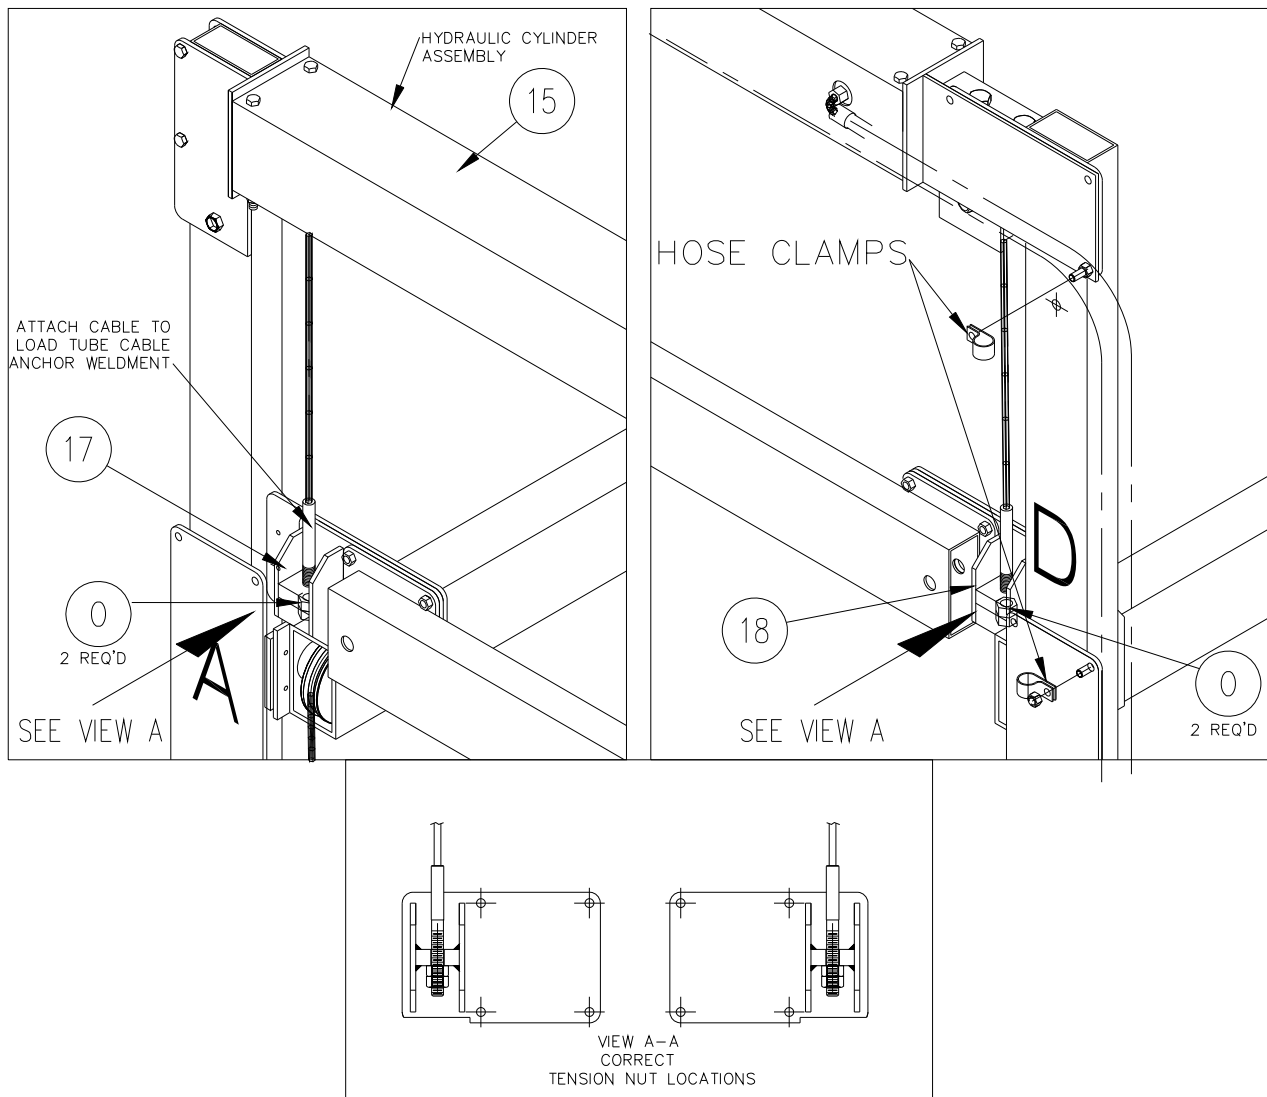

Figure 3-11
1. Using a 7/8" open-end wrench, tighten the cable studs on the cable. The following step numbers correspond to the step numbers shown in Figure 3-11.